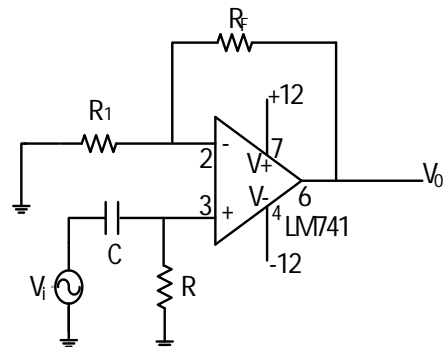

Fig. 4 Non-inverting high pass filter
- 1) Assemble the circuit shown in Fig. 4 with $R_1 = 10\text{ k}\Omega$, $R_2 = 100\text{ k}\Omega$, $R = 1\text{ k}\Omega$ and $C = 0.1\text{ }\mu\text{F}$. Make sure the power supply ground is connected to the circuit ground.